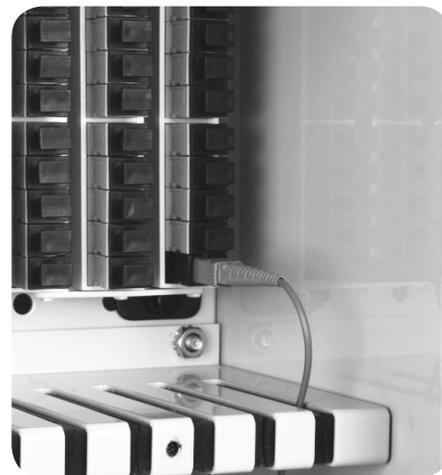

Figure 16
3. Install the IDEAA LGX-118 Rack Mount Bracket into the LGX-118 mounting fixture by pressing in the two nylatch plungers. **(Figure 16)**
2. Plug the jumper cable into the black input port on the IDEAA Splitter Module. Use the foam fiber relief to route the jumper cable to the fiber routing section of the IDC. **(Figure 16)**